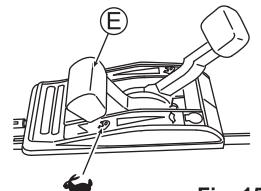

Fig. 15
2. Set the throttle lever (E) to "START" to start mowing. (See Fig. 15)